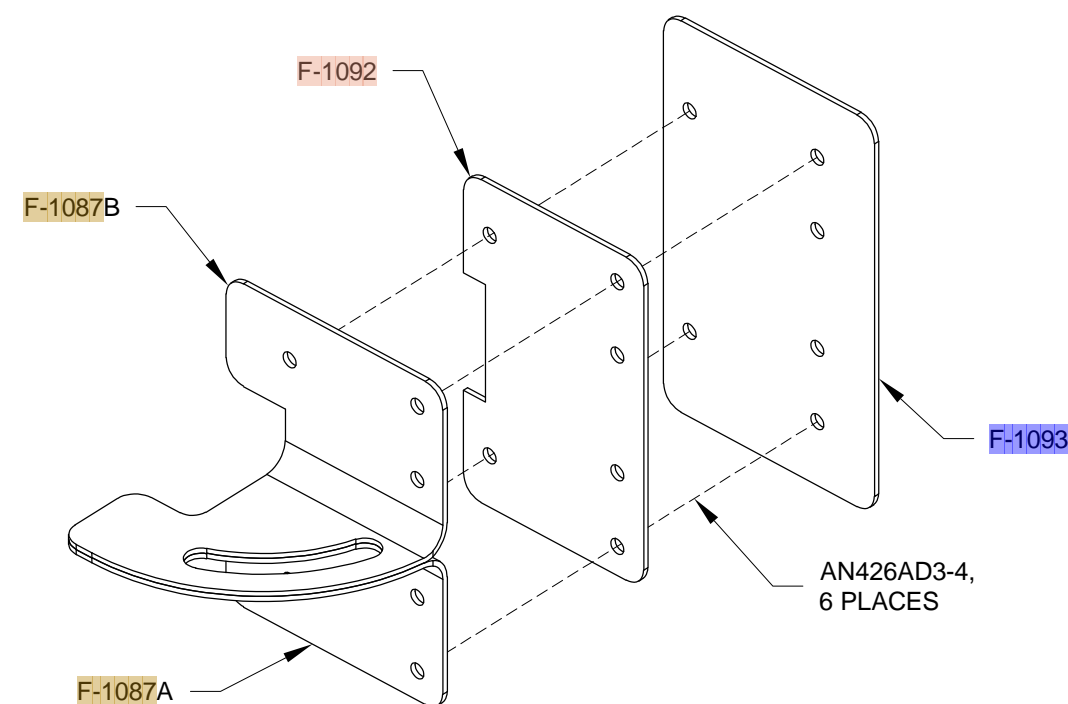

FIGURE 3: ASSEMBLING THE VENT DOOR
Step 2: Cleco the F-1087A Vent Slide, F-1087B Vent Slide, F-1092 Vent Door Doubler and F-1093 Vent Door together as shown in Figure 3. Final-Drill #40 the holes common between these parts. This creates the Vent Door Subassembly. Repeat this step to create a second vent door subassembly.
Step 12: Rivet the F-1087A Vent Slide, F-1087B Vent Slide, F-1092 Vent Door Doubler and F-1093 Vent Door together as shown in Figure 3. Repeat this step to create a second vent door subassembly.